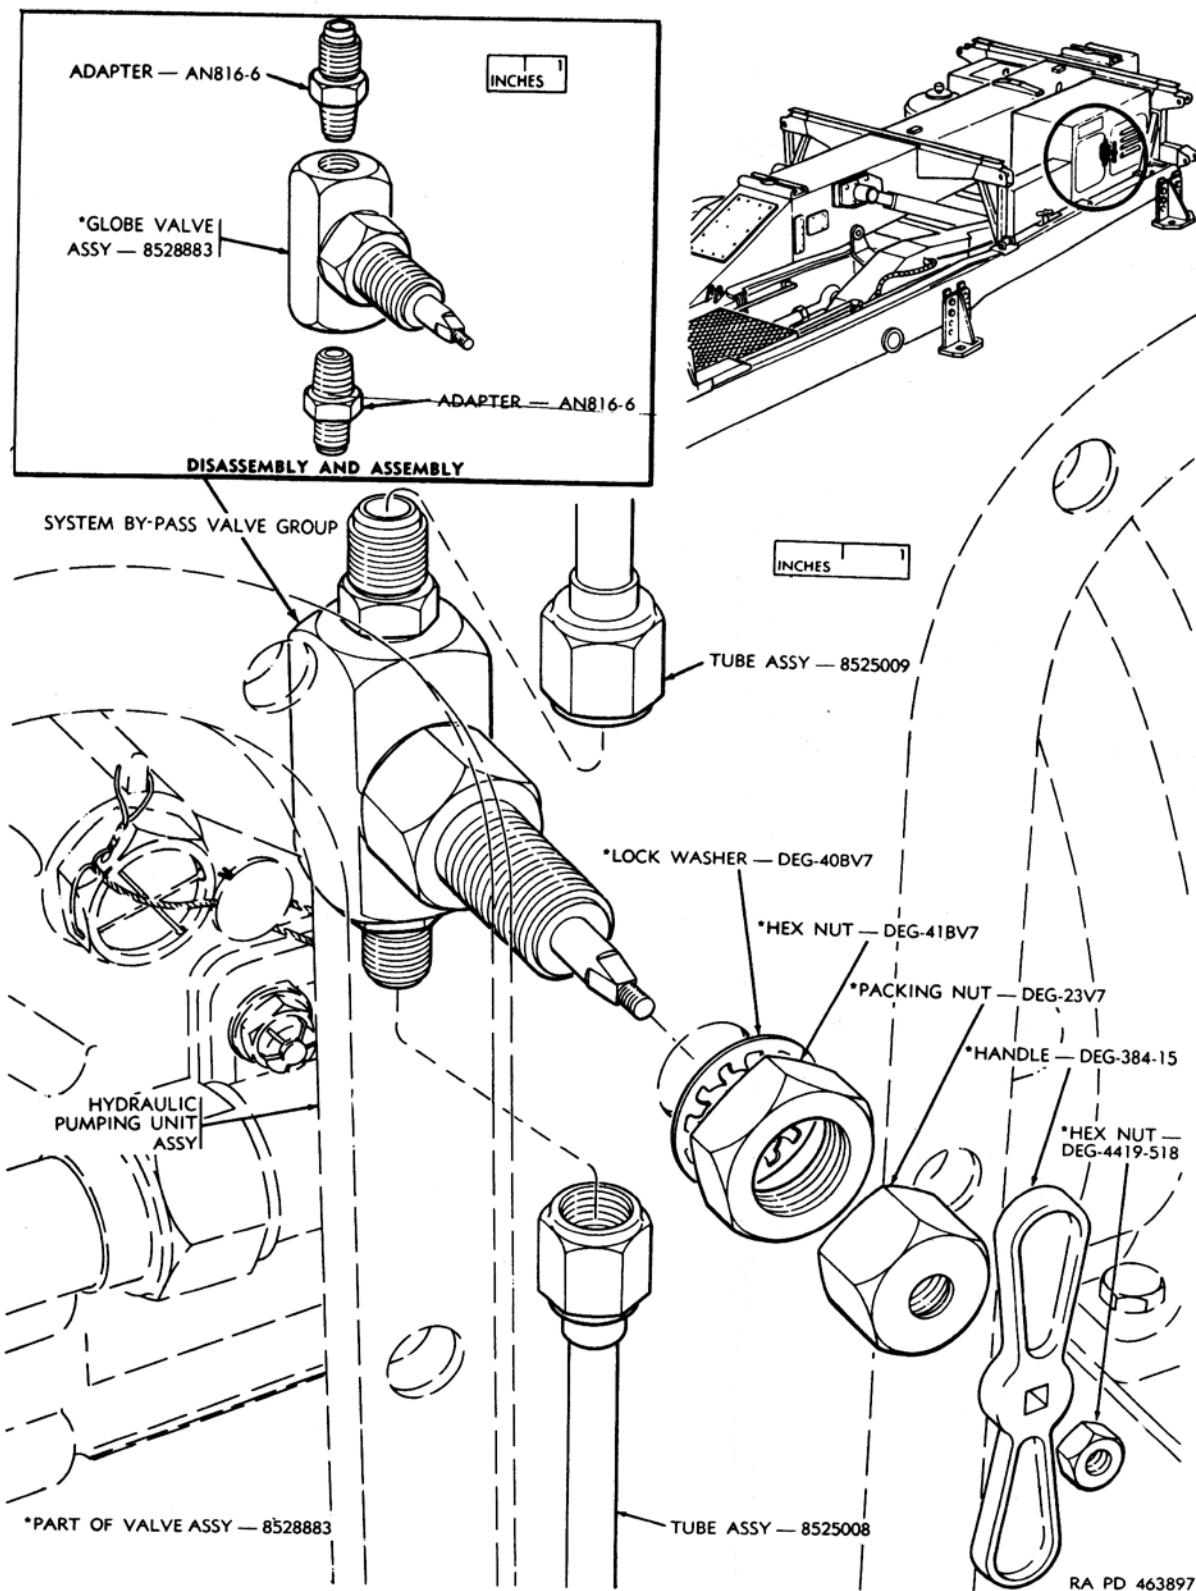
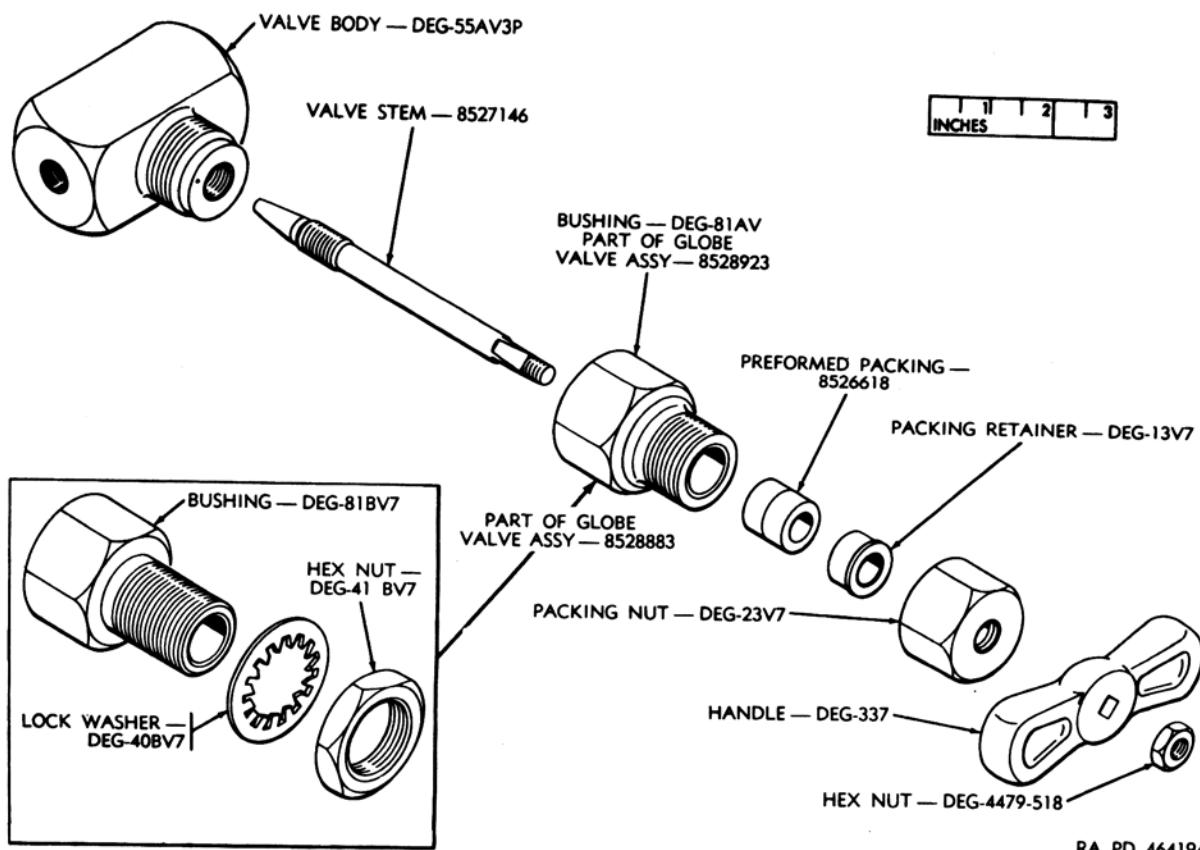

Figure 146. SYSTEM BY-PASS valve group — removal and installation.
Figure 147. Globe valve assembly - disassembly and assembly - typical.
- (d) Disconnect two tube assemblies (fig. 146) attached to valve group.
- (2) *Disassembly.*
- (b) Disassemble globe valve assembly (fig. 147).
- (3) *Assembly.*
- (b) Assemble SYSTEM BY-PASS valve group (fig. 146).
- (4) *Installation.*
- (a) Check the hydraulic connections for fluid leakage; if there are any leaks, remove attaching tube assembly (fig. 146) as described in w(1) below.
- (c) Replace all defective parts and install tube assembly as described in w(2) below.